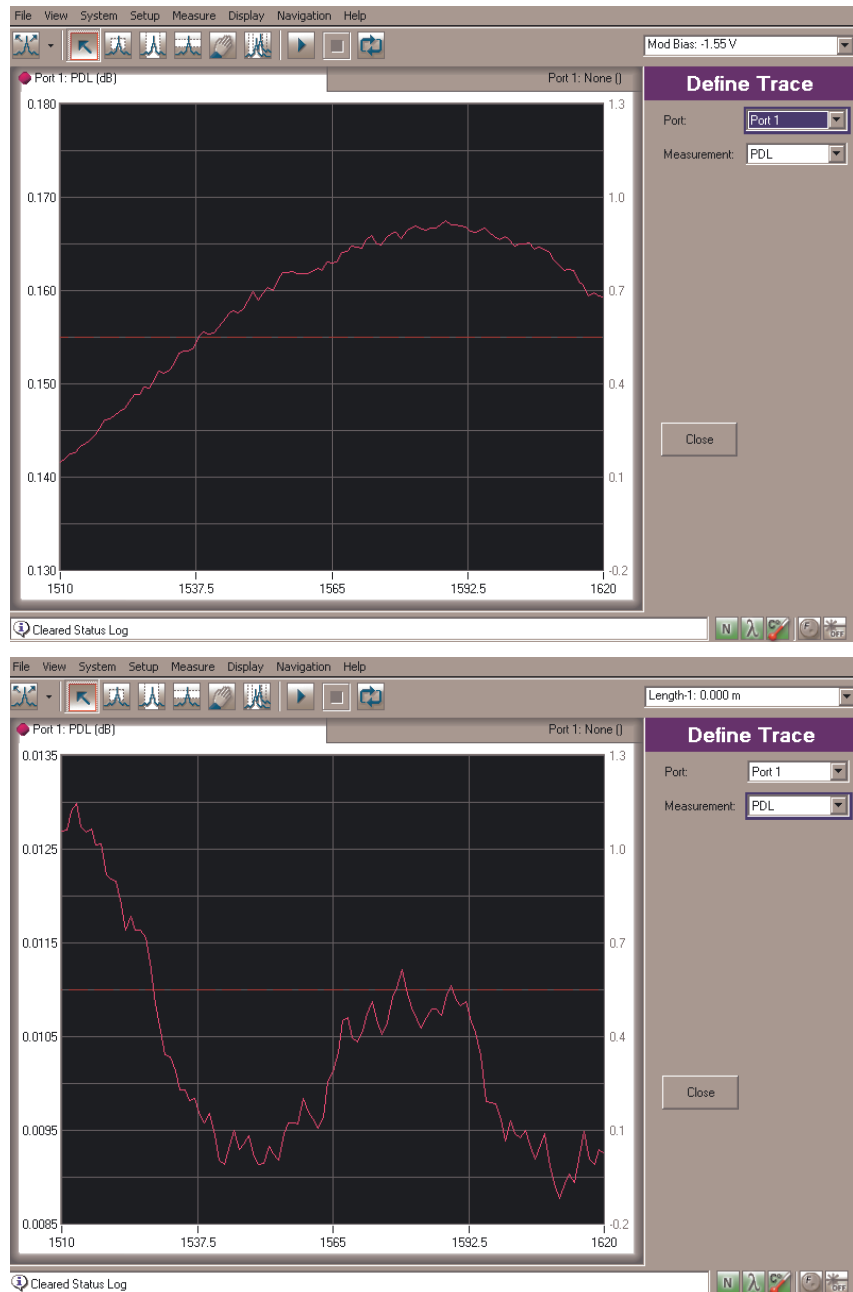

Figure 4 Sample PDL trace Top: for standard correction, Bottom: for Option 400
- b Check the PDL curve. Since the normalization and measurement are made with the same connection and the patch-cord itself has little PDL, the ideal should be near 0 dB and a measurement curve should look similar to Fig. 4. The variation from 0 dB is a measure of the noise and intrinsic PDL of the measurement and should be within a tolerance of about ± 0.15 dB (with option 400, ± 0.05 dB).